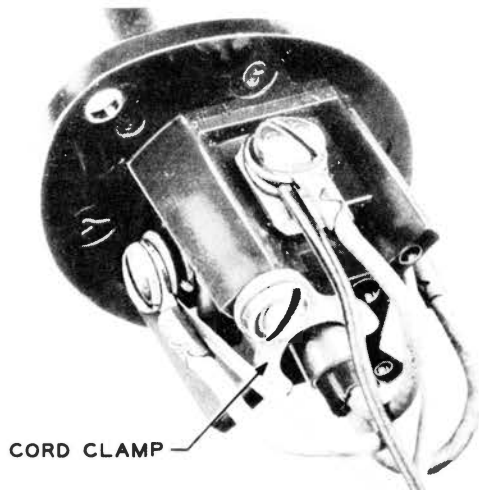

Fig. 25 — Cording of 47-Type Connecting Block
8.04 When the 47-type connecting block is used, the cord conductors should be terminated as shown in Fig. 25.